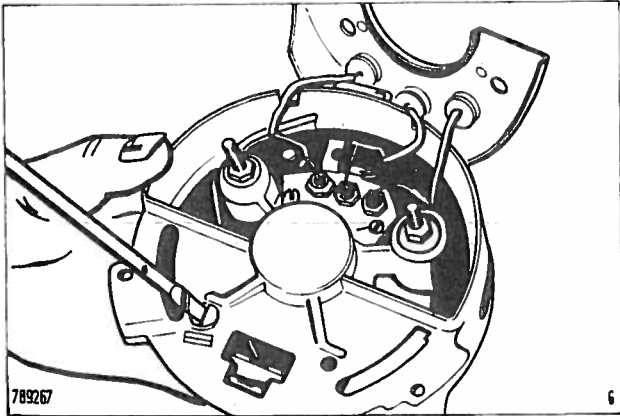
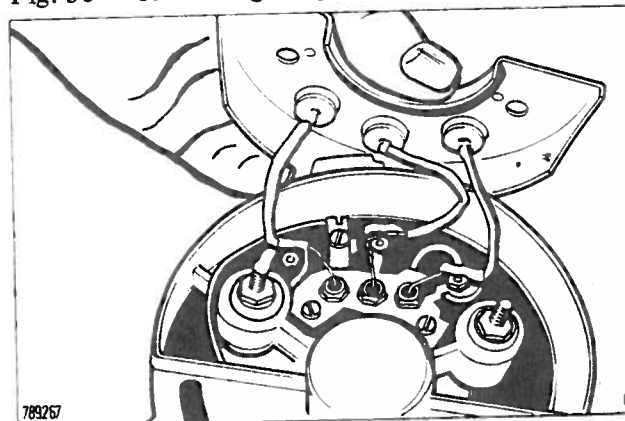

Fig. 57 Disconnecting conductor
Fig. 56 Removing positive diode heat sink
8. Unscrew the nuts on both B+ terminal bolts and lift the positive diodes' heat sink Fig. 56. Disconnect the conductor from D+ to the exciter diodes Fig. 57.